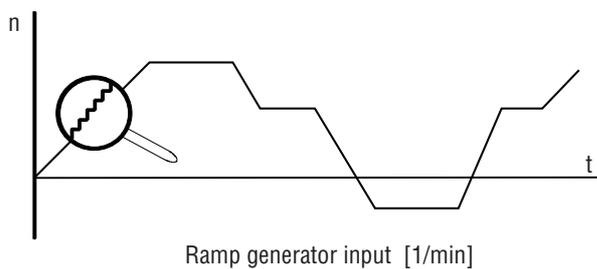
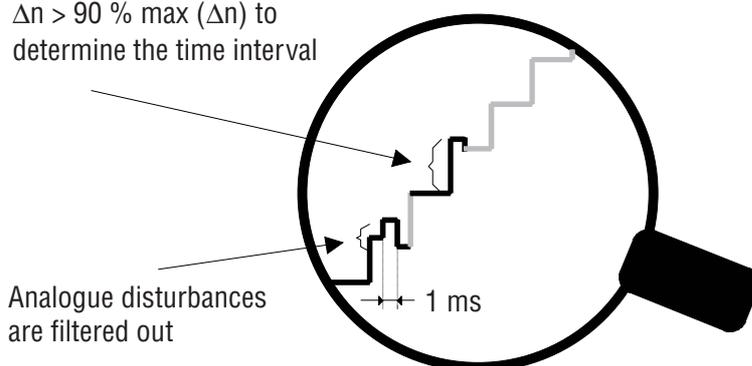

Figure 16: "Step function" of the external setpoint input
Figure 17: Peripheral prerequisites for determining the time interval
1. Trace a measured value curve (MD_SCOPE sampling time 1ms), using the analogue setpoint entered by the higher-level positioning control. The given setpoint change must be big enough to obtain a clear step function (Figure 16) for the "ramp generator input [1/min]" variable. To calculate the time interval, the setpoint ramp rate must be less than 1s (Figure 17).